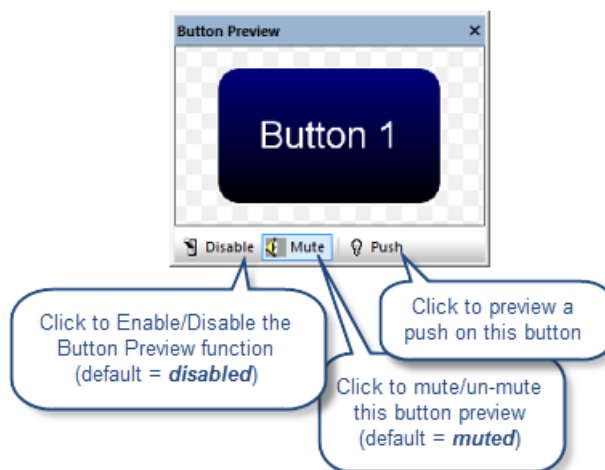

FIG. 80 Button Preview window
2. Select **View > Button Preview** to open the Button Preview window (FIG. 80):